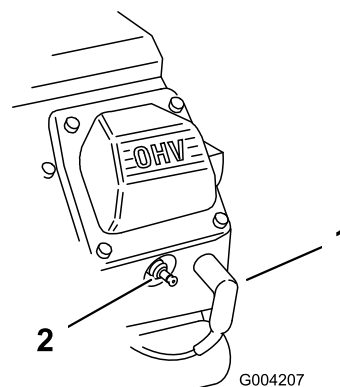

Figure 31
3. Pull the wires off of the spark plugs (Figure 31).
3. Push the wires onto the spark plugs (Figure 31).